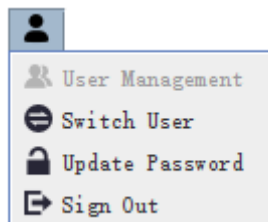

Figure 2.3-3 User Commands List-Tool Bar
- User: There is a user shortcut button at the right side of the tool bar. The current user name is displayed on this button, click this button to display the drop down list of the user control, as shown in Figure 2.3-3, select the command to execute the corresponding operation. Refer to "3.1.1 User Management" for the details about user commands.